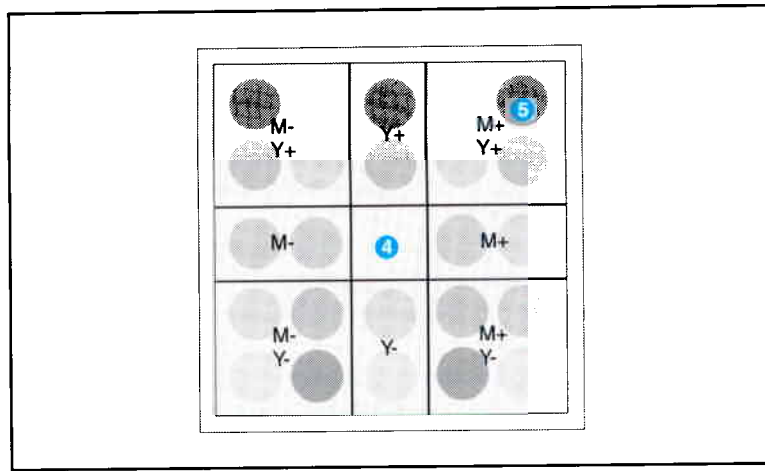

Figure 7-53 Adjusting Magenta and Yellow Density Setting
Examine the color balance circles from a distance of 6 feet (2). If the center circle (Figure 7-53, callout 4) blends into the background, the magenta and yellow densities do not need to be adjusted (go to step 9). Determine which circle blends in best with the background. Make note of the magenta (M) and yellow (Y) density adjustments (for example, M+, Y+ for Figure 7-53 callout 5) for that circle.